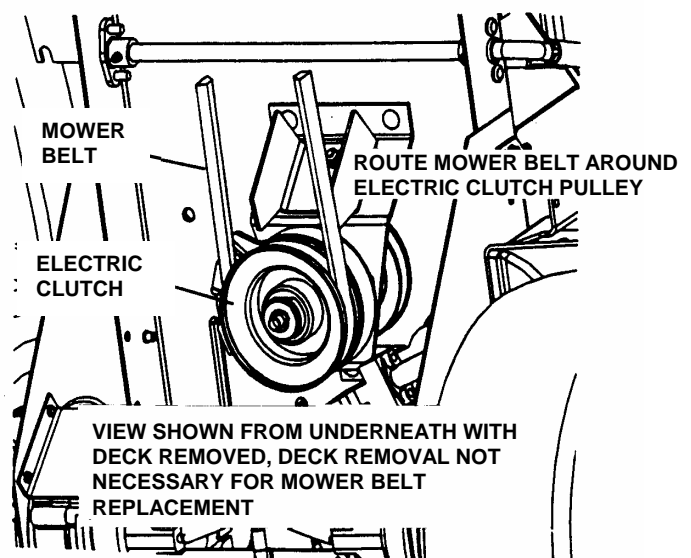

FIGURE 4.3
1. Route new belt around electric clutch pulley. See Figure 4.3.